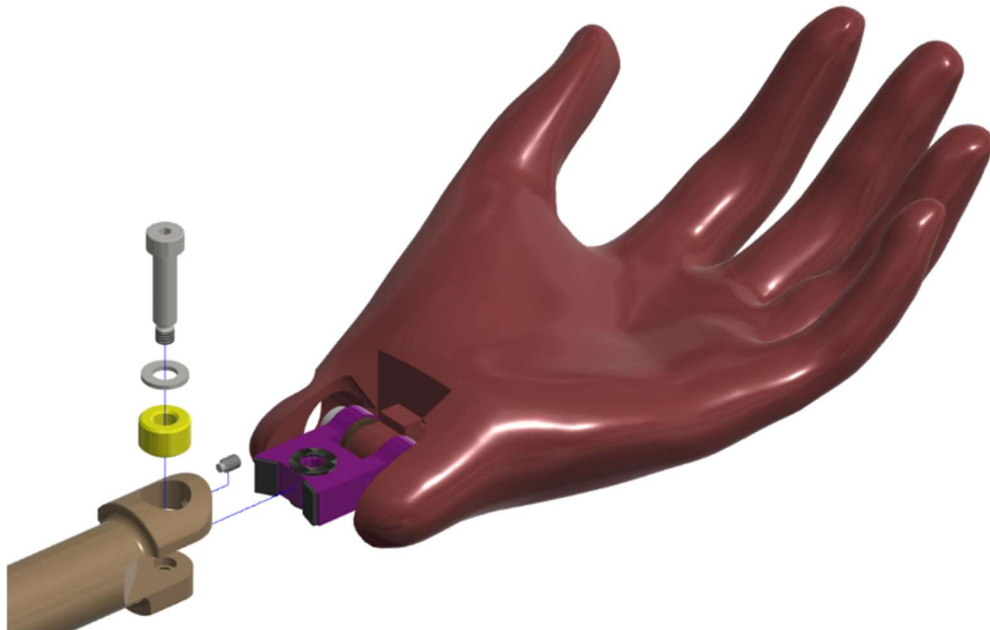

Figure 11-18. Separate the hand from the lower arm
11.2.14 Separate the hand from the lower arm by removing the M5 X 18 LG SHSS SS, a M3 X 0.5 X 5 LG. SSSD, and washers (Figure 11-18).